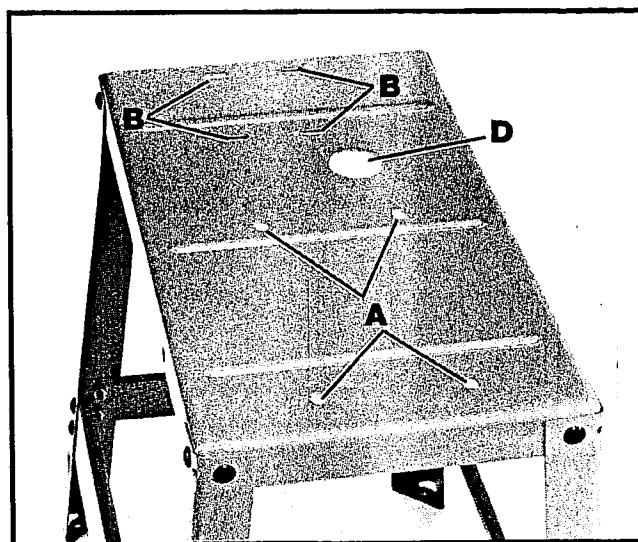
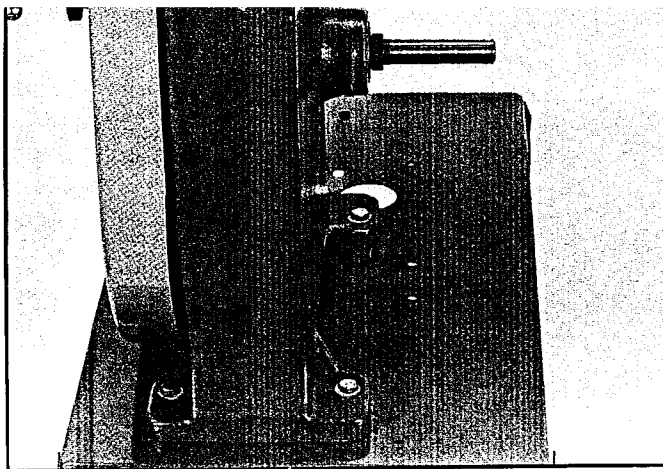
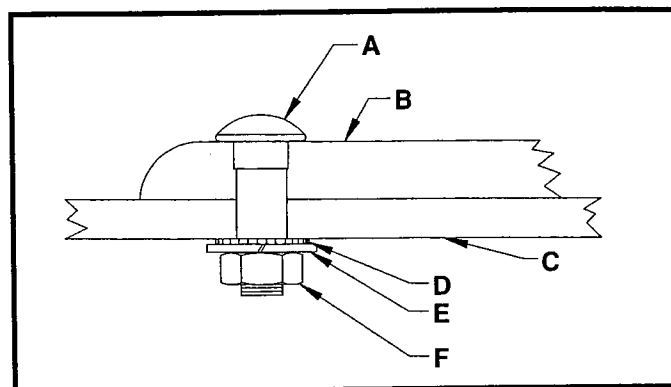

Fig. 3
Fig. 4
Fig. 5
2. Fig. 3, illustrates the top shelf of the stand. The four holes (A) are for mounting the band saw to the stand. The four holes (B) are for mounting the motor to the stand. If you are using the 62-158 motor, the cord from the motor to the power supply and the cord from the motor to the switch are to be passed through the large hole (D) Fig. 3.
The correct holes in the top shelf of the stand for mounting the band saw are shown at (A) Fig. 3. Assemble the band saw to the stand, as shown in Fig. 4, using the four 5/16-18 x 1-3/4" hex head screws, 5/16" flat washers, 5/16" lockwashers and 5/16"-18 hex nuts. The hex nuts and lockwashers will be located on the underside of the top shelf. Push down on top of stand so the legs of stand adjust to the surface of the floor and tighten all stand hardware.
The correct holes in the top shelf of the stand for mounting the motor are shown at (B) Fig. 3. Assemble the motor to the stand using four 5/16" x 3/4 inch-long carriage bolts (A) Fig. 5, through the motor plate (B) and stand (C). Fasten the motor to the stand as shown in Fig. 5, from underneath, using four external tooth washers (D), four lockwashers (E) and four hex nuts (F). **NOTE:** Do not completely tighten the motor to the stand at this time as proper belt tension and pulley alignment must first be made.